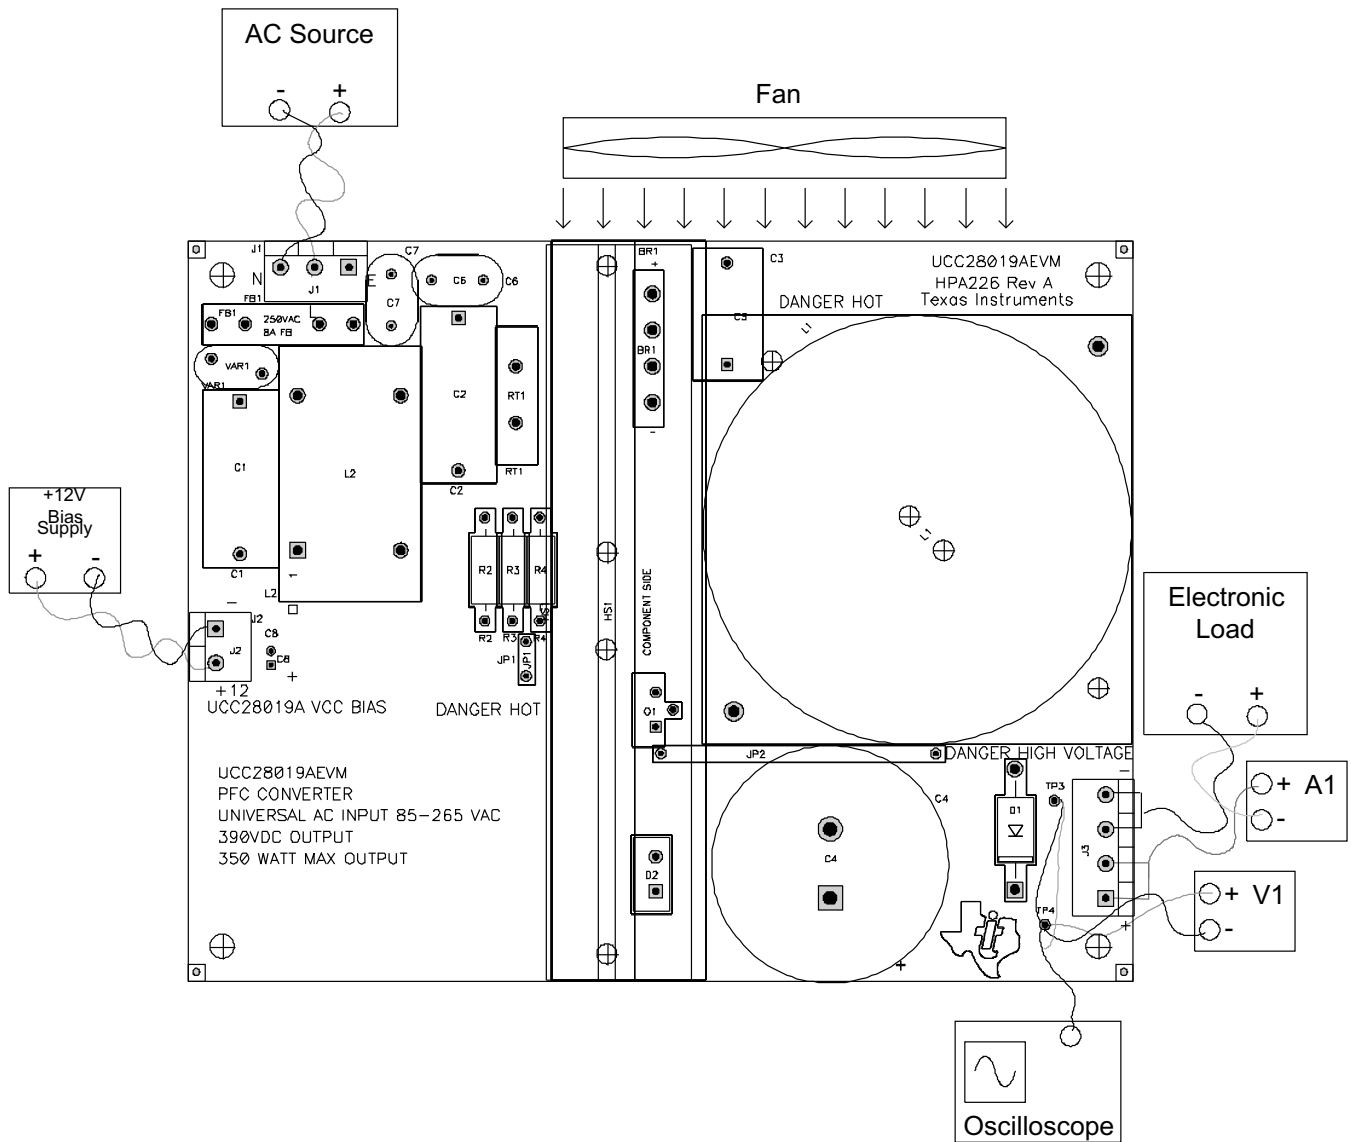

Figure 2. UCC28019AEVM Test Set Up
Figure 2 shows the basic test set up recommended to evaluate the UCC28019AEVM.
The ac input source shall be capable of supplying between 85 VAC and 265 VAC at no less than 8 A peak. Connect the ac source to the L and N terminals of J1 on the EVM as shown in Figure 2.
The bias supply to the device shall be capable of supplying up to 12 VDC at no less than 10 mA. Connect the bias supply to the – and +12 terminals of J2, UCC28019A VCC BIAS, as shown in Figure 2.
For highest accuracy, the output voltage of the UCC28019AEVM shall be monitored by connecting a digital voltmeter, V1, directly across TP1 and TP2 with the positive terminal at TP1 and the negative terminal at TP2, as shown in Figure 2. A dc current meter, A1, should be placed in series with the electronic load for accurate output current measurements.
A fan, capable of 200 LFM to 400 LFM, should be used to maintain component temperatures within safe operating ranges at all times during operation of the UCC28019AEVM. Position the fan so as to blow along the length of the heatsink as shown in Figure 2.
- a. Connect the equipment as shown in Figure 2.